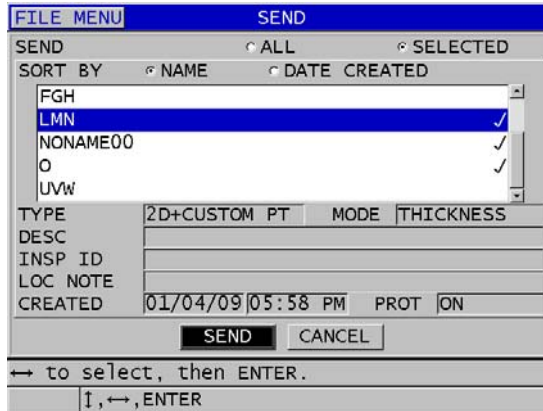

Figure 14-3 Selecting a file to send
4. In the **SEND** screen (see Figure 14-3 on page 249):